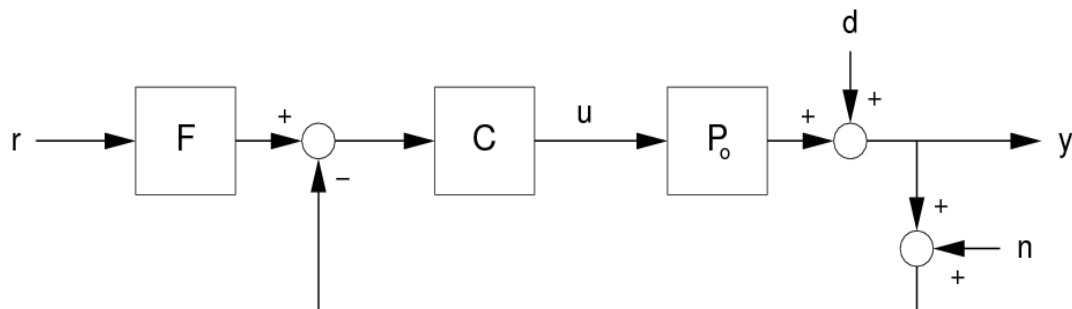

Figure 3
Refer to the closed-loop system shown in Figure 3.
- Q1 Explain the concept of “internal stability” and relate this to BIBO stability, using a block-diagram similar to that shown in Figure 3. Why is it important to consider internal stability in a feedback control system?
- Q2 Given is the feedback control loop shown in Figure 3. Formulate the Nyquist stability criterion. Under which conditions does this criterion apply.
- Derive the closed-loop equations of the system, and discuss how peaking would affect the system's response to r , d and n , as defined in Figure 3.